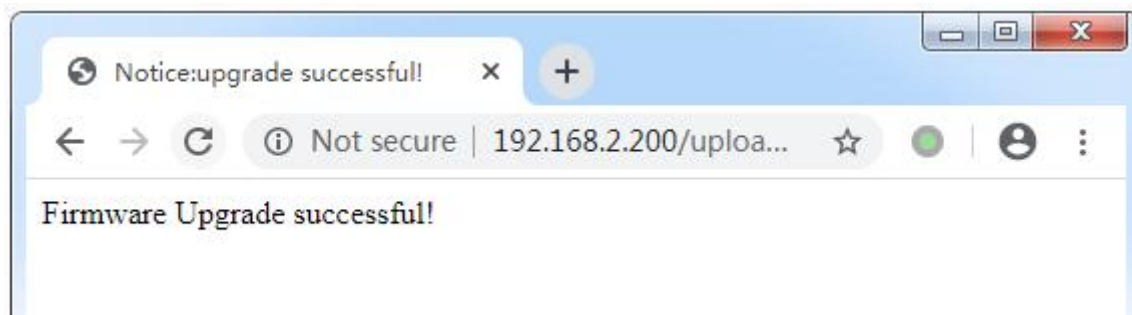

Fig. 6.3
⑩ **Select the firmware:** It is used to upgrade the firmware of the device. Click the button [Choose File] to choose the firmware (.bin) of the updated device, and then click the button [Upload] to update the device. Figure 6.3 shows the firmware upgrade successful .